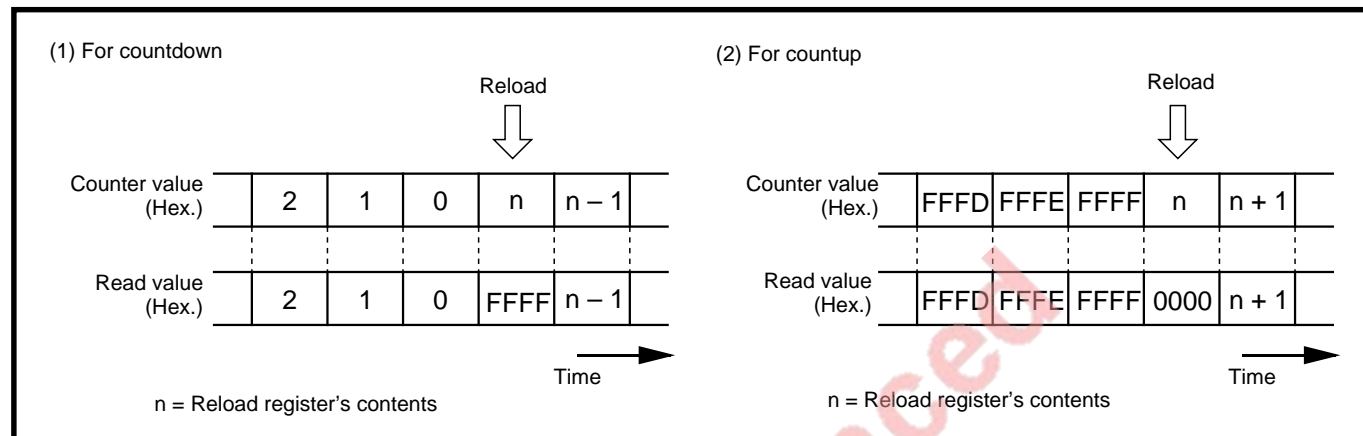

Fig. 8.4.9 Reading timer Aj register
1. While counting is in progress, by reading the timer Aj register, the counter value can be read out at any timing. However, if the timer Aj register is read at the reload timing shown in Figure 8.4.9, the value “FFFF16” (at an underflow) or “000016” (at an overflow) is read out. If reading is performed in the period from when a value is set into the timer Aj register with the counter stopped until the counter starts counting, the set value is correctly read out.